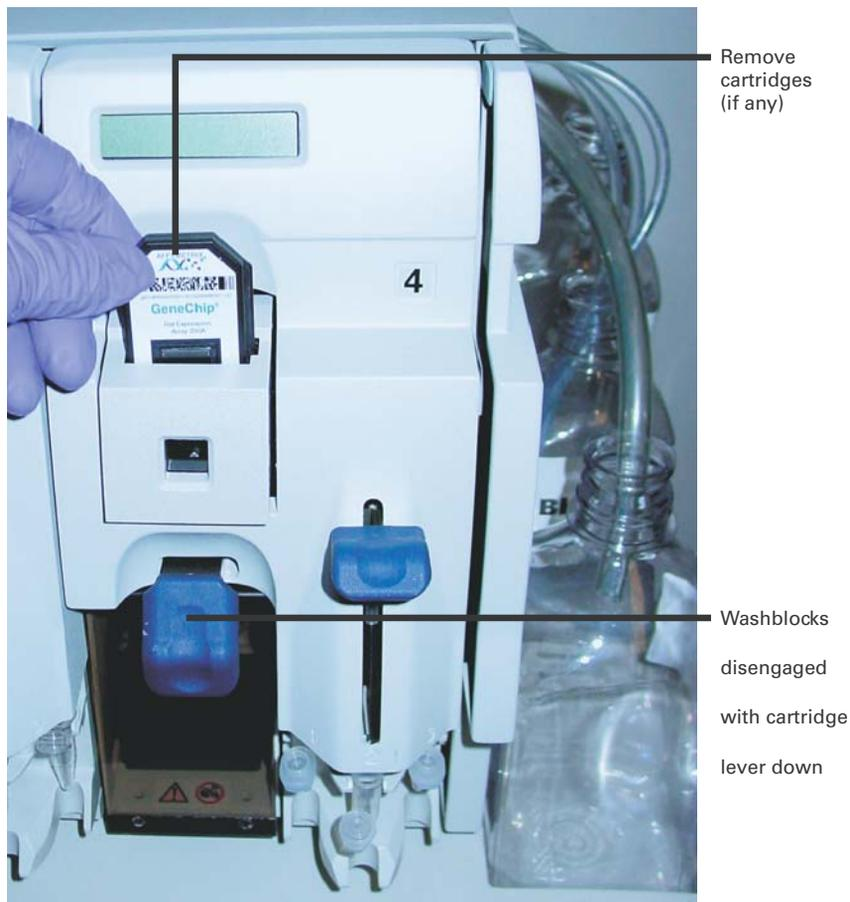

Figure 9.1 Disengaged washblocks showing cartridge levers in the down position. Remove any cartridges
1. Disengage the washblock for each module by pressing down on the cartridge lever. Remove any probe array cartridge Figure 9.1 on page 288.